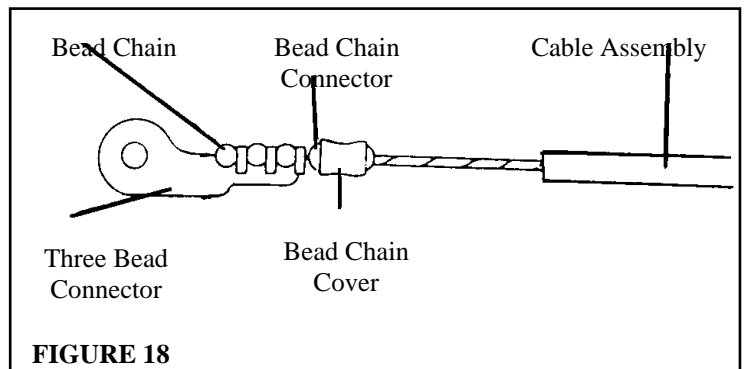

FIGURE 18
5. When the **Three Bead Connector** is properly used, the following parts will be used: **Three Bead Connector**, **Bead Chain Cover**, **Bead Chain Connector**, and **Bead Chain** (Figure 18)